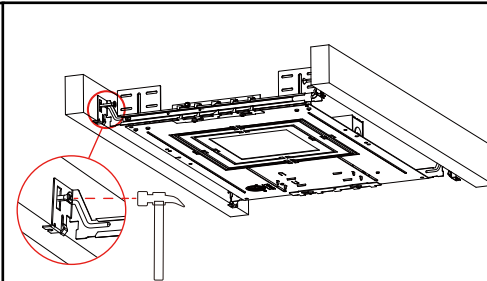

Figure 17
3. For steel studs, use self-tapping sheet metal screws in place of nails. Using a hammer, secure the bar hangers to the wood joist with the nail. Secure at all four locations. (Fig.17)